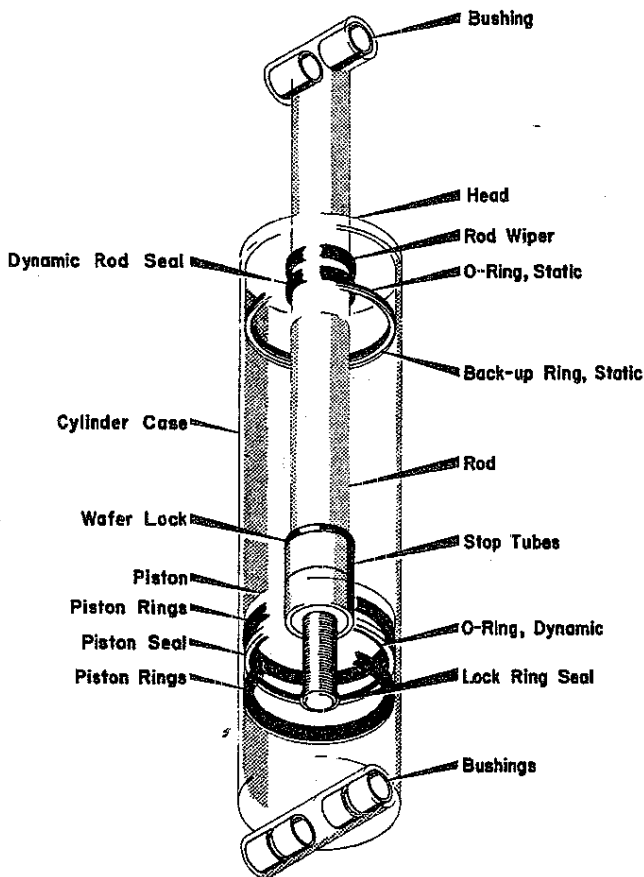

Figure E-2. Cylinder Layout
4. Unscrew the head (Figure E-2) in a counterclockwise direction with the spanner wrench. Withdraw the head from the case.